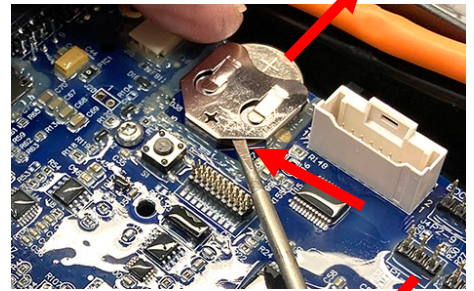

Figure 10
12. Gently use a small screwdriver to push the battery out of the battery holder (see Figure 10). **NOTE: Use caution to NOT touch any other components which could damage the board.**